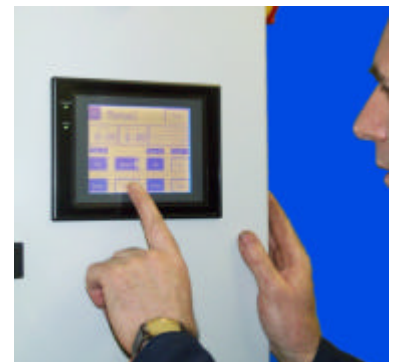

Fig. 4 Operating panel
2. Ensure that the main isolator is set to 'OFF' and that the Emergency Stop shown (fig. 4) is pushed into the 'OFF' position.